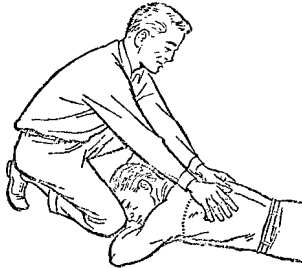

FIGURE 18. Compression Phase.
- c. Rock forward until the arms are approximately vertical and allow the weight of the upper part of your body to exert slow, steady, even pressure downward on the hands. This forces air out of the lungs. Your elbows should be kept straight and the pressure should be exerted almost directly downward on the back. You do not need much pressure (Figure 18).